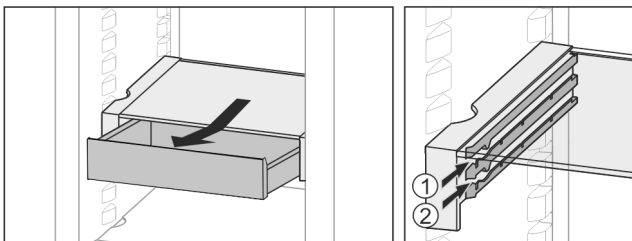

Fig. 32
- ▶ Slide back at the height you want Fig. 32 (1) or Fig. 32 (2).